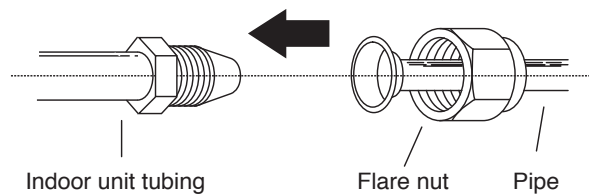

Fig. 5.7
2. Align the center of the two pipes that you will connect. See Fig. 5.7